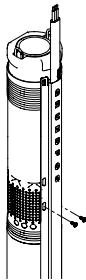

Fig. 7 Fitting the cable guard to the pump suction strainer
3. Fasten the cable guard to the pump suction strainer with the two self-tapping screws supplied, see fig. 7.